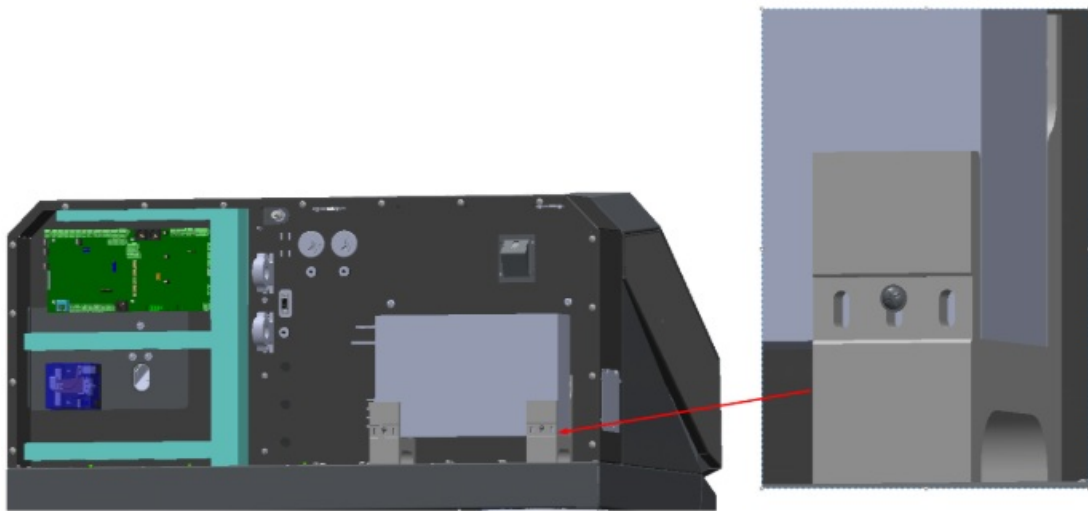

Figure 5. Фиксация блока питания
5. Secure the power supply unit to the brackets using screws (see Figure 5).